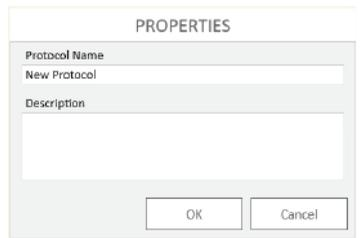

Figure 18. New Protocol name prompt from the GloMax[®] Discover software.
2. You will be prompted to name the protocol. You also may provide a description if desired (Figure 18).